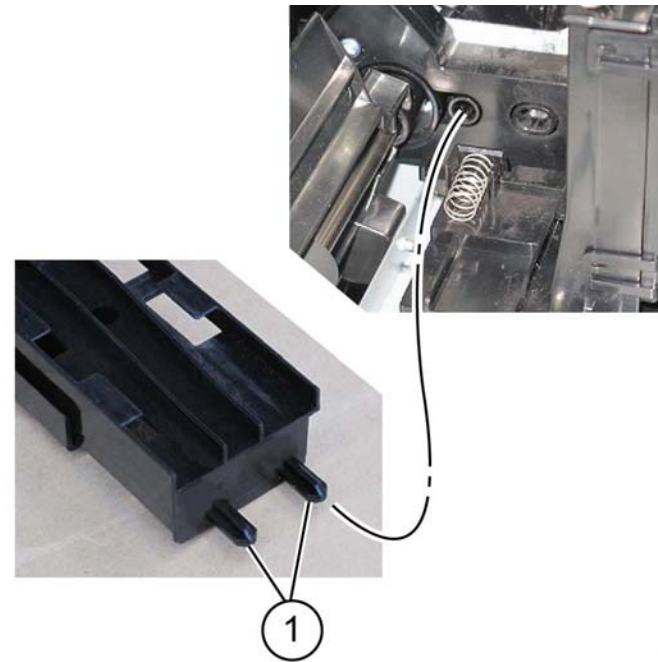

Figure 4 Alignment
2. When installing the lower guide assembly, align the bosses (1) with the holes, Figure 4.